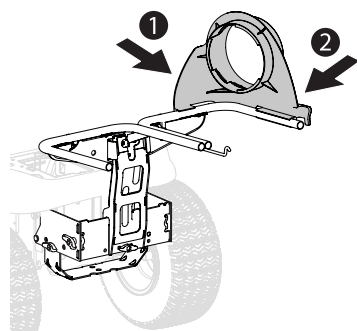

Figure 11
1. Snap the upper chute support (731-17091) in place by first clipping the side portion onto the hanger assembly rail (1), as shown in Figure 11.
2. Snap the front side of the upper chute support to the rail (2), as shown in Figure 11.